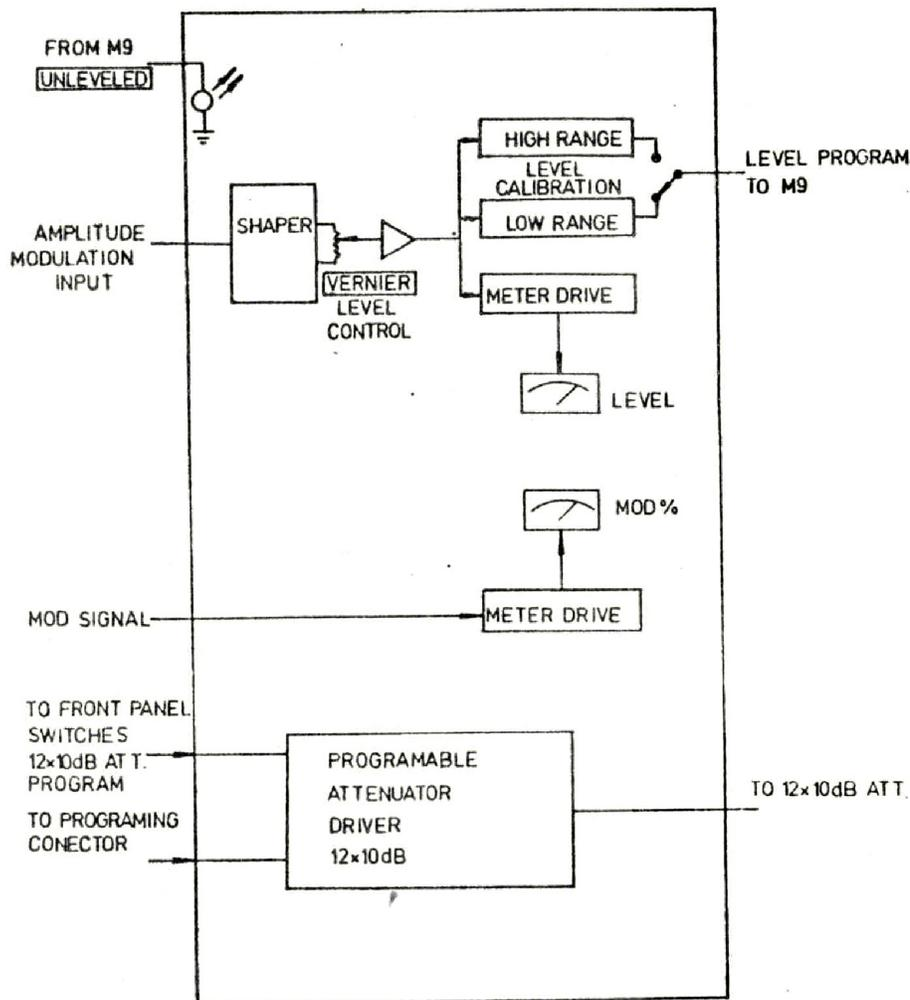

FIG. 7
4.5 AM - reference unit the M10 (fig. 7)